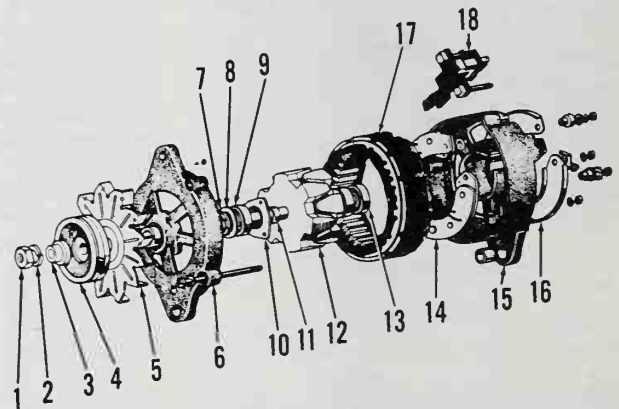

Fig. K3-31—Exploded view of electric starter used on Models D1102-B, D1102-BC, Z751-B and Z851-B.
STARTER. Refer to Fig. K3-31 or K3-32 for an exploded view of electric starter.
Pinion engagement depth is adjusted by turning hook (H—Fig. K3-31). With starter pinion in engaged position,
Pinion engagement depth is adjusted by turning hook (H—Fig. K3-31). With starter pinion in engaged position, distance between collar (8) and pinion should be 0.1-0.4 mm. Turn hook (H) so